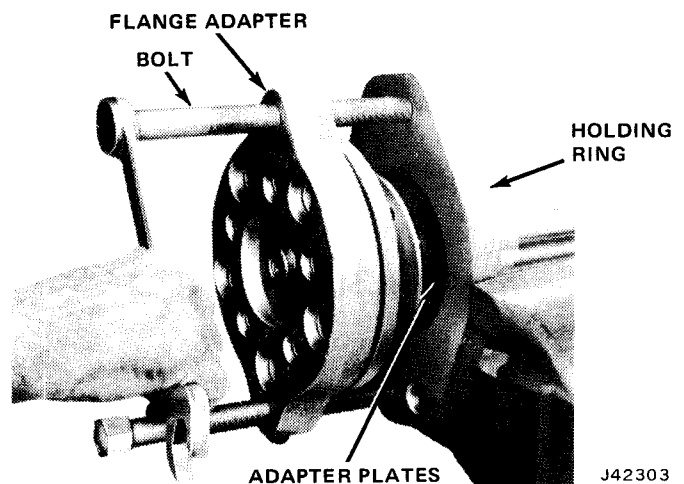

Fig. 10-25 Removing Axle Shaft Bearing
(10) Using hacksaw, cut through oil seal. Do not damage seal contact surface. Remove oil seal from axle shaft.
(11) Attach Axle Shaft Adapter Tool J-25156 to axle shaft using flange stud nuts. Position flange adapter bolts against dimples of holding ring and alternately tighten them until bearing is pressed from shaft (fig. 10-25).